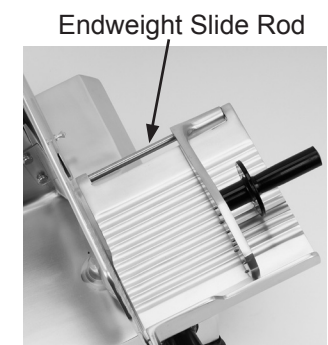

Figure 14-3
1. Apply a few drops of Globe oil to the slide rod (Fig. 14-3).